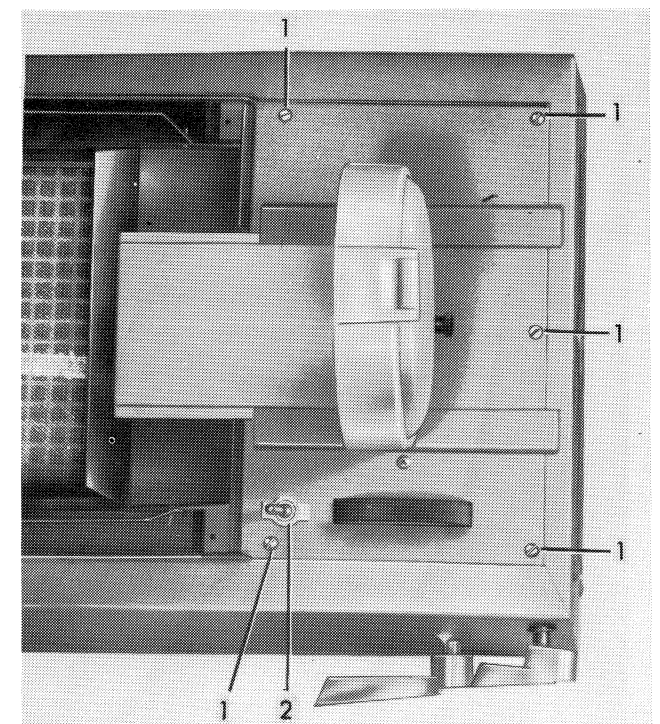

Figure 7—Deck Plate
- Remove the lens deck by removing 5 screws (1, Fig. 7) from the deck and switch nut (2, Fig. 7).